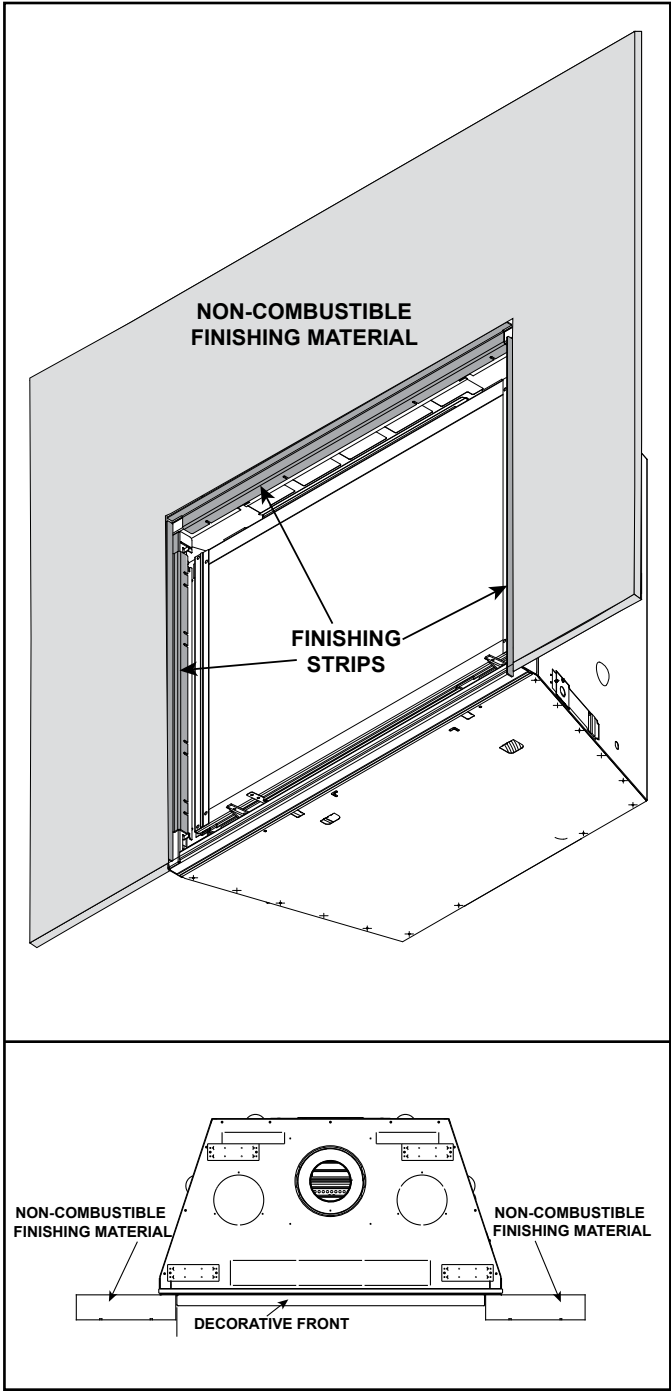

Figure 10.15 Non-Combustible Finishing Material Thickness Greater Than One Inch - Finishing Strips Required
- A. Finish material 1-6 inch thick: Use this method with overlap fronts installed as inside fit. See Figure 10.15.